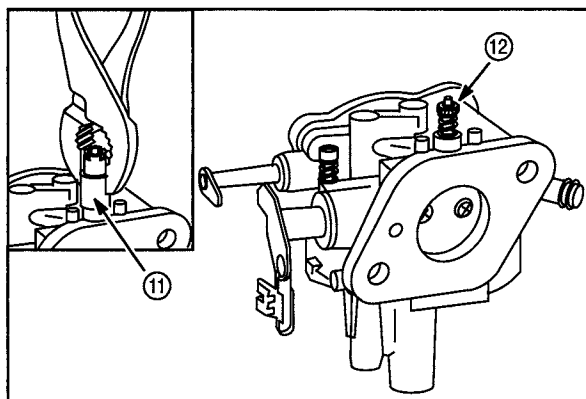

Fig. 27
7. Use a pliers to remove the idle mixture screw adjustment limiter cap (11) if equipped, Fig. 27.
8. Remove the idle mixture screw (12).